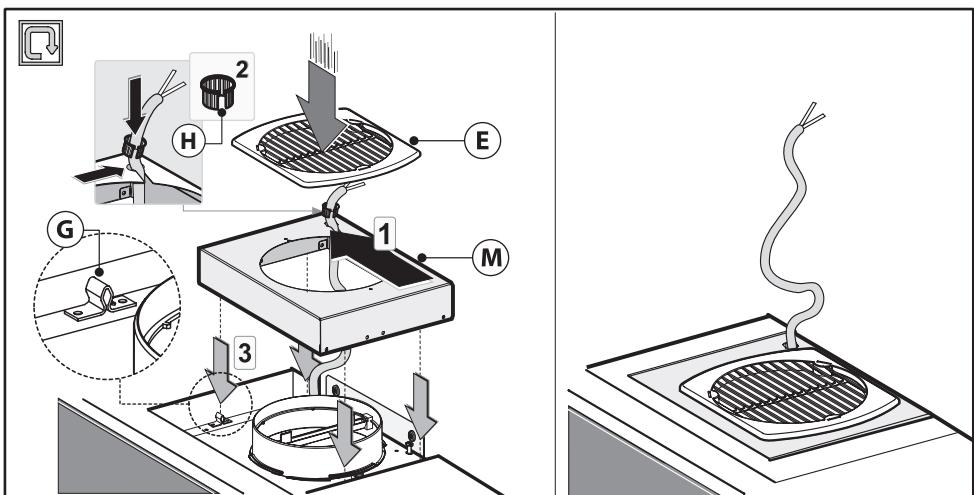

Fig.6
- Pass the power supply cable through the slots of the small cupola **M** as shown in Fig. 6.
- Fasten the small cupola **M** and the grille **E** making sure that is it perfectly hooked on to the fastening pins **G**. (Fig. 6).